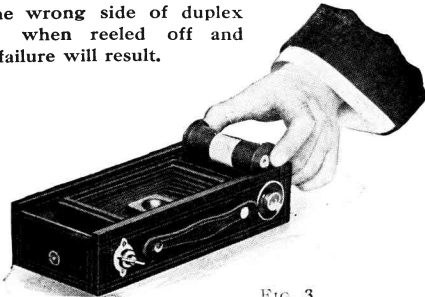

FIG. 3
3. Now insert the cartridge as shown in Fig. 3.